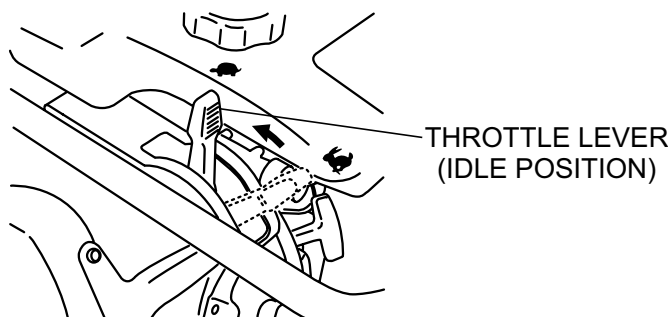
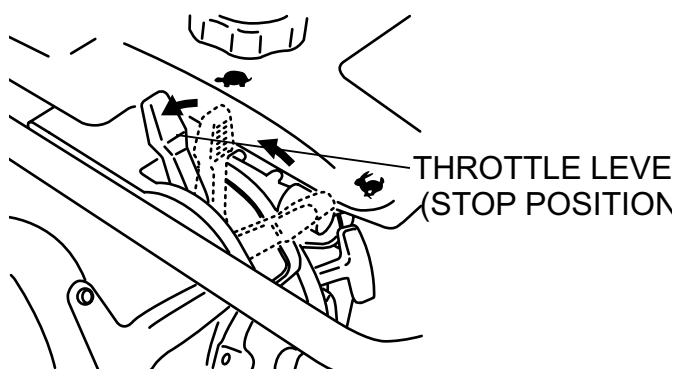

Figure 6. Throttle Lever (Idle Position)
Figure 11. Throttle Lever (Stop Position)
1. Slide the throttle lever from the stop to the idle position (🛑) (Figure 6). This opens the fuel cock and the engine electrical circuit is turned on automatically.
3. To stop the tamping action, move throttle lever quickly from **START** to **IDLE** position (Figure 6).
1. Move throttle lever quickly from the **START** to **IDLE** position (Figure 6) and run the engine for three minutes at low speed. After the engine **cools**, move the throttle lever to the **STOP** position (Figure 11). The engine will stop and the fuel cock is automatically closed.